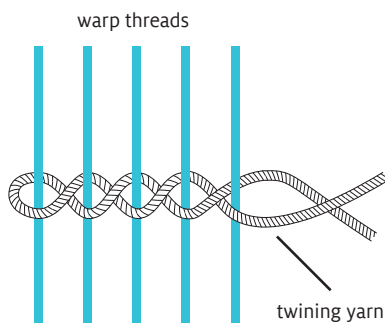

FIGURE 14: MAKE A TWINED EDGE
- Starting at one side of your warp, wrap the twining yarn around the first warp thread and adjust the twining yarn ends to be the same length. Twist the twining yarn ends over each other and pull firmly to tighten the twist (Figure 14).